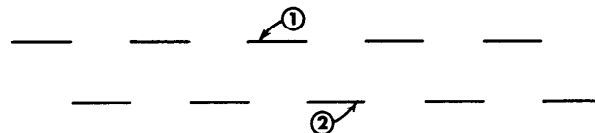
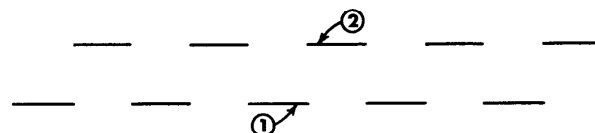
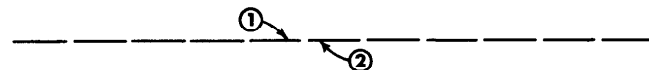

Fig. 2. POSITIONING CONTROL AT EXTREME COUNTER CLOCKWISE POS
Fig. 3. POSITIONING CONTROL AT EXTREME CLOCKWISE POSITION
Fig. 4. POSITIONING CONTROL AT SOME INTERMEDIATE POSITION
- f) Adjust the sweep vernier (fine frequency) control until a pattern of 6-9 cycles is locked in place on the 'scope screen, using as little sync voltage as possible. The pattern should appear as in Fig. 2.
4) The POSITIONING control permits adjustment of the separation between the "1" and "2" traces. With it you may superimpose one trace upon the other or reverse the vertical order of appearance of the traces on the 'scope screen. The extreme counter-clockwise position of this control provides maximum separation of the traces for one vertical order of appearance ("1" above "2") as shown in Fig. 2. The extreme clockwise rotation yields maximum separation for the reverse vertical order of appearance ("2" above "1") as shown in Fig. 3. At some setting of the POSITIONING control between the extremes of rotation, one trace will be superimposed upon the other as shown in Fig. 4. Turn the POSITIONING control slowly to the maximum clockwise position and back to the maximum counter-clockwise position observing the action described above.